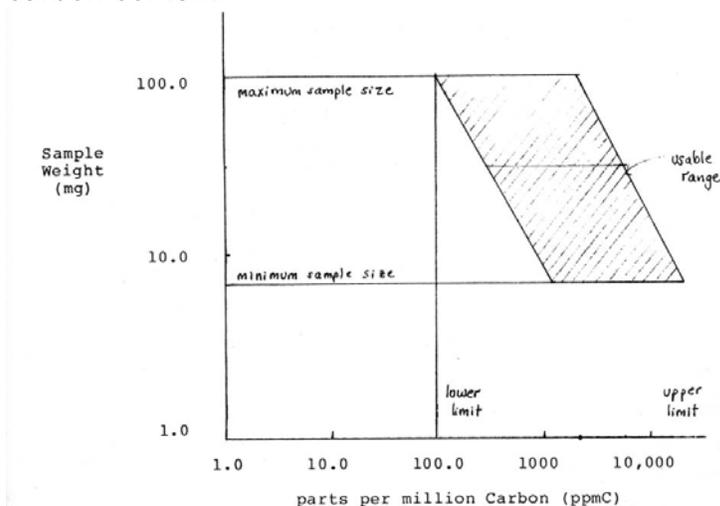

Figure 1. The influence of carbon content on sample weights.
- 3.3.3 Weigh out 1-100 mg of sample directly into a boat using the mg scale balance. Record weight of sample. The more organic carbon content in the sample, the less sample must be weighed into the boat and vice-versa. Combusting too much sample volume will result in detector saturation. See figure 1 below for an approximate sample weight based on sample carbon content; the recommended minimum sample size is 9 mg. However, the figure below is only an approximation and sample weights less than 9 mg may have to be used for samples with high carbon content.